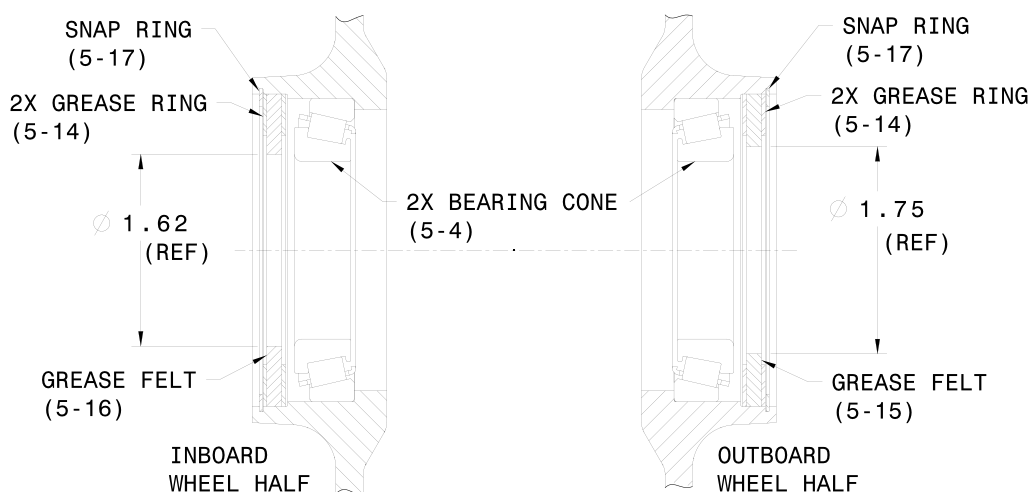

Figure 3 Main wheel assembly grease seal components
- Refer to Figure 3 and install the following components.